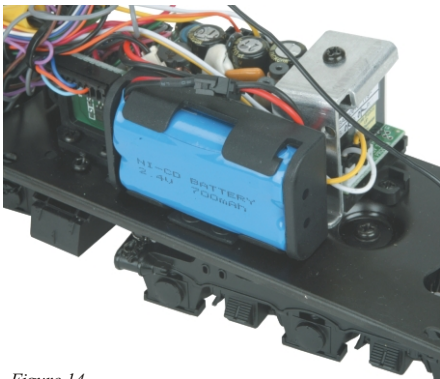

Figure 14
**Replace:** If the sounds are not improved at the end of the 15-minute test charge, it is time to replace the batteries. Available through M.T.H. Parts. (See figure 14)